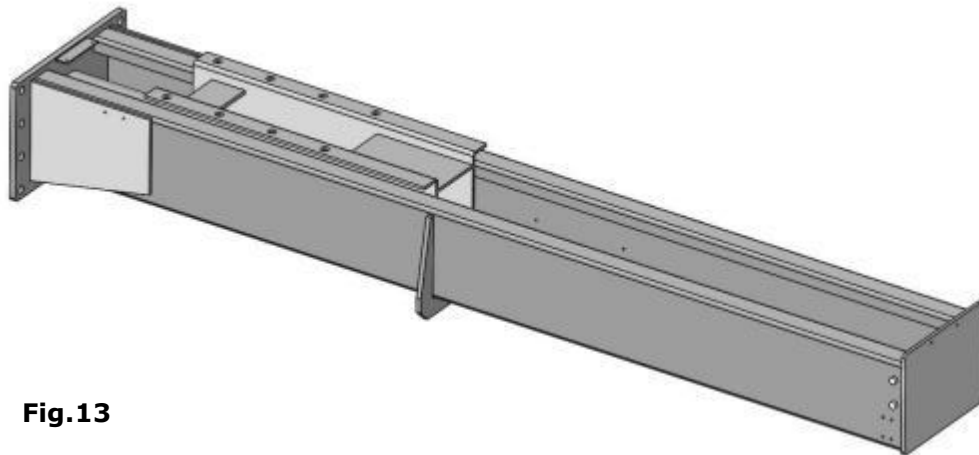

Fig.13
1.Lay the column flat to the ground. (See Fig.13)